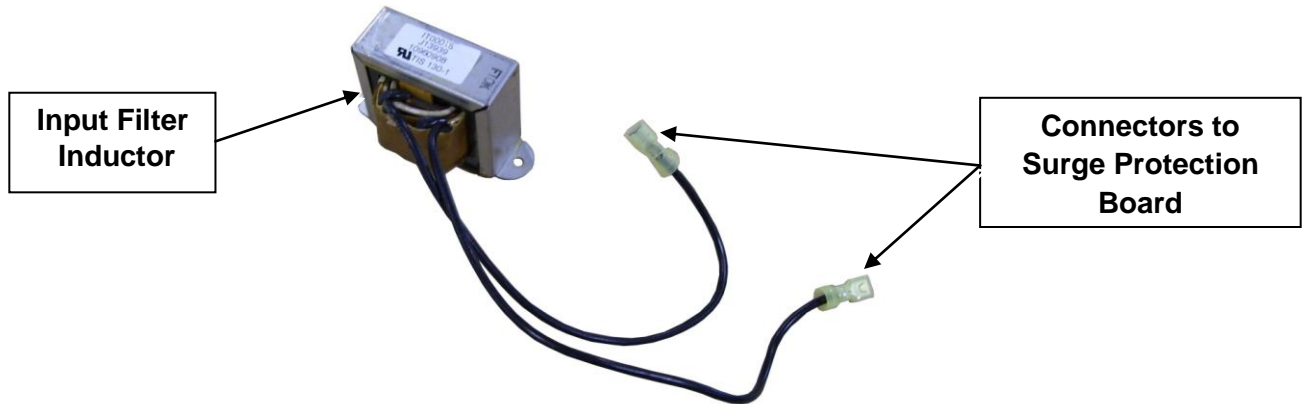

Figure 12: AC Input Filter Inductor
2.7 INPUT FILTER INDUCTOR – This 1mh, iron core filter inductor is off board and is placed after the surge protection circuit. It filters out normal mode noise between the line and neutral branches of the incoming AC. See Figure 12.